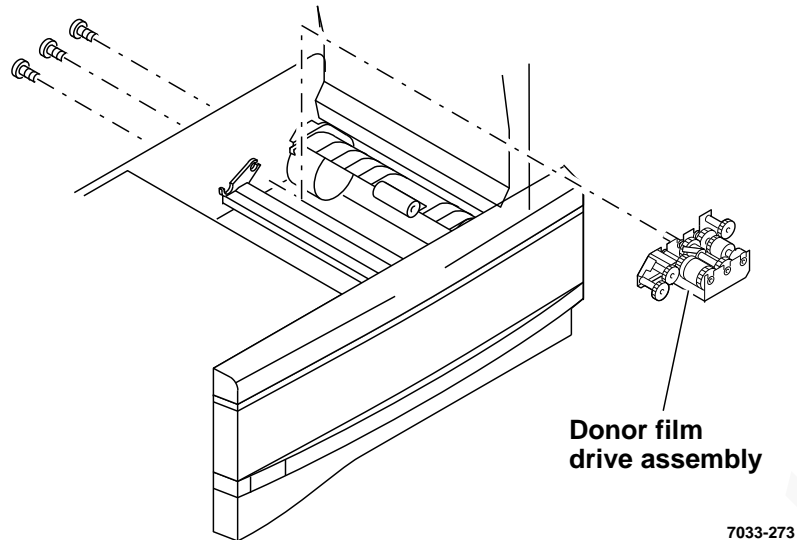

Figure 24. Donor film drive assembly removal
- b. Remove three screws securing donor film drive assembly (Figure 24), and remove donor film drive assembly.